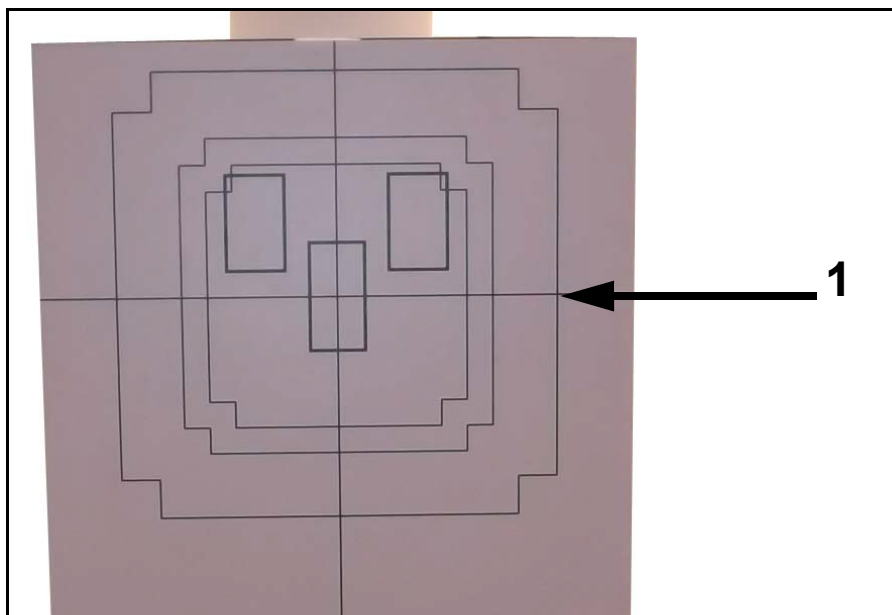

Figure 6-12. Front Panel
- 6 Pull the velcro-backed panel (1 in Figure 6-12) off the wallstand.